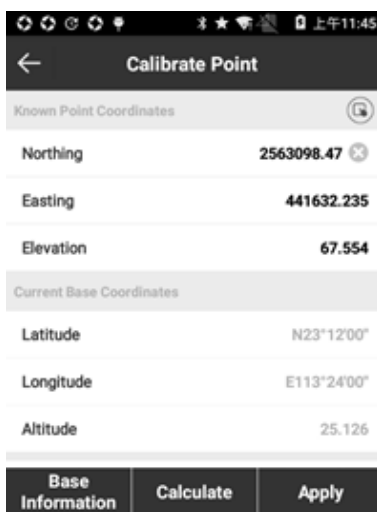

Figure 3.4-2
- (1) Press [Base Point Calibration] to enter interface as shown in Figure 3.4-2.